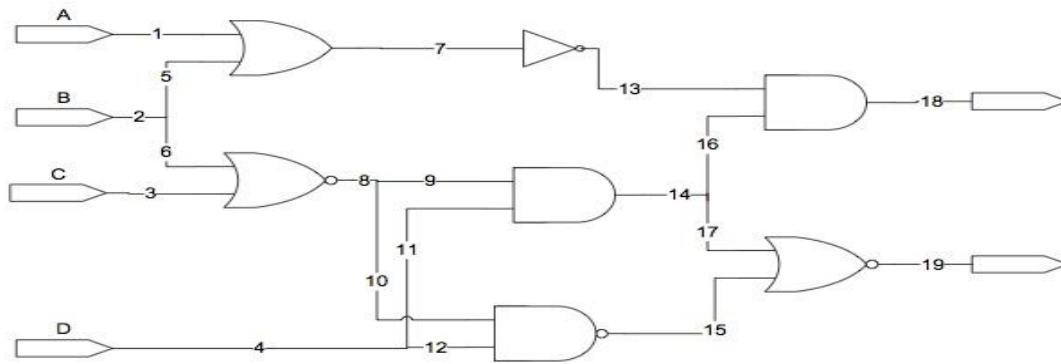

Figure 1
2. For this problem, you should use the circuit shown in Figure 1.